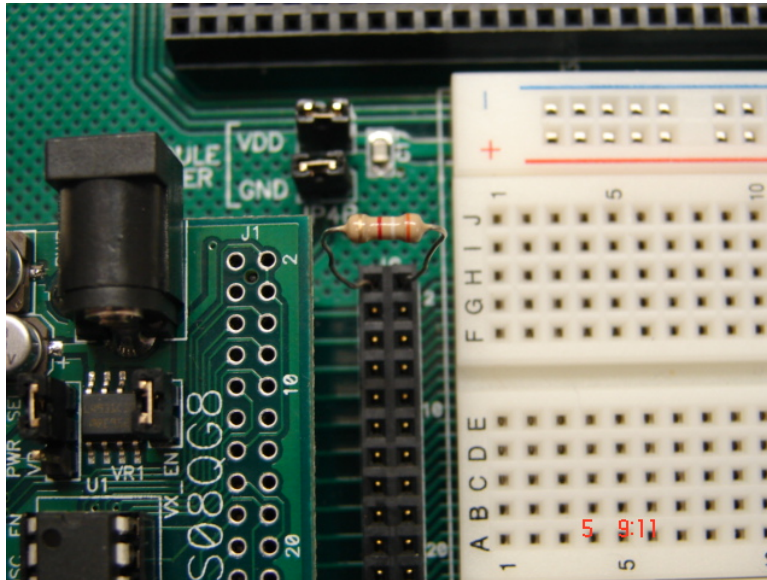

Figure 9 Resistor placement on MCU PORT
- ◆ Connect a 10K Ohms resistor between MCU PORT pin number 1 and pin number 2 as pictured in Figure 9